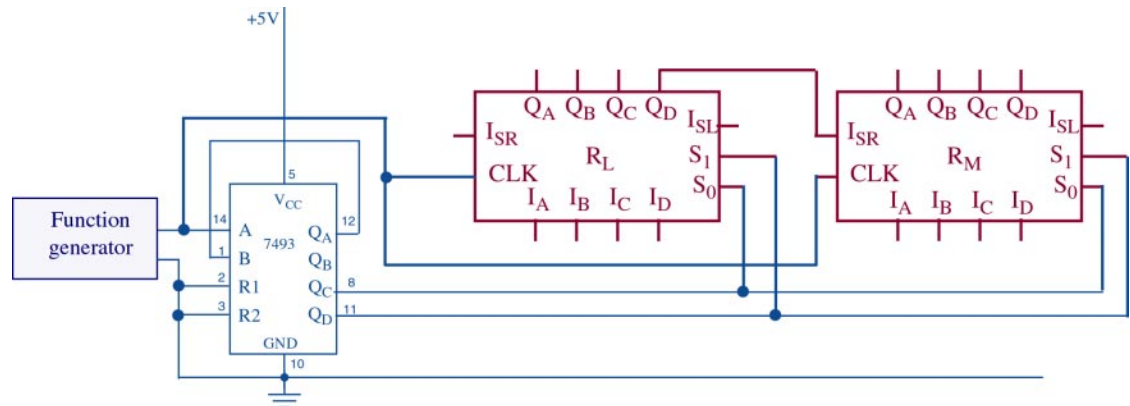

Figure A.4-1 A partially designed circuit for experimenting with the universal shift register.
Hint#3 Consider generating the control signals using the IC 7493 connected as a binary counter, as shown in Figure A.4-1 and,
4.1.1 Using as a reference the prepared physical circuit diagram of Figure 2.1-1(b), construct the circuit in which the two shift registers will perform the data transfers specified in Section 2.1.3. Figure A.4-1 shows a partial test circuit for experimenting with the shift register 74LS194A, in which the function generator and a binary counter serve as a generator of timing signals.